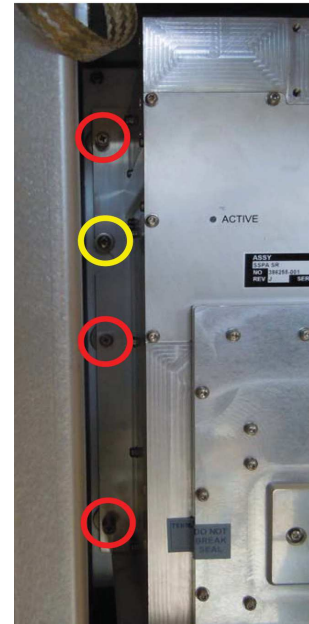

Fig. 7.39 6 screws
- 7 The SSPA module is fixed to the cabinet with eight screws, four to the left and four to the right. The left side screws of the SSPA is shown in Fig. 7.39 \(p. 140\) and the right side is equal to the left side - the screws in red circles must be loosened totally while the screw in yellow circle should be left untouched.